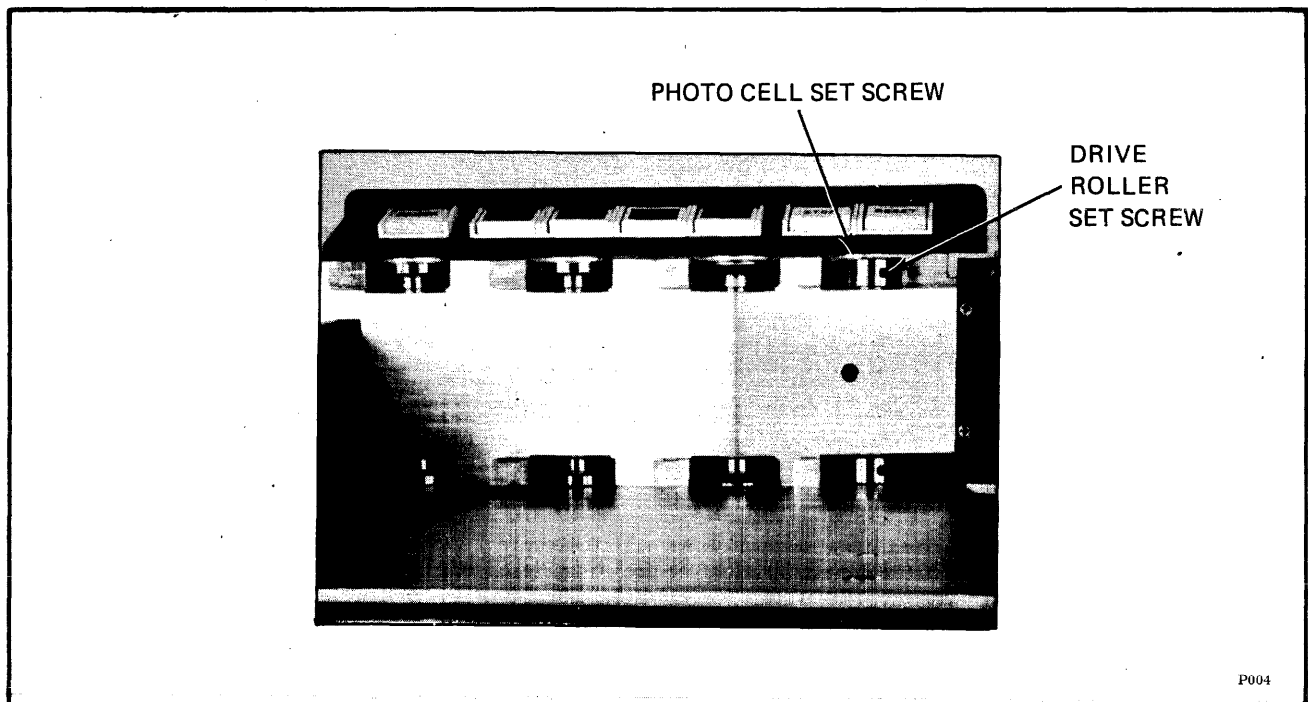

Figure 6-6. Location of Photocell Set Screw
- e. To gain access to the stack photocell set screw, the drive roller must be removed. Loosen the set screw in the drive roller and remove the roller, Figure 6-6.
- f. Loosen the set screw in the stacker casting which retains the stack photocell, Figure 6-6.